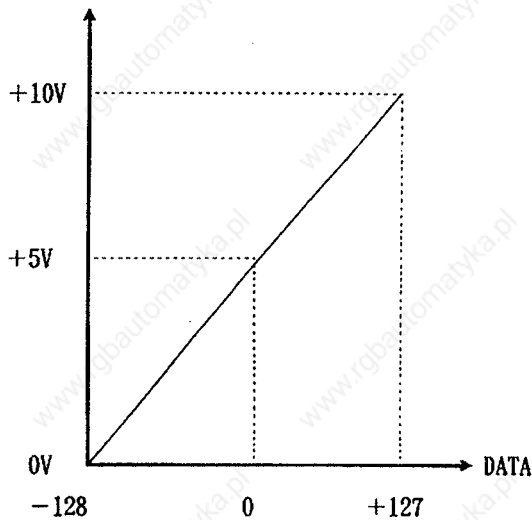

Fig. 1
- ① The output data other than speedometer output and load meter output will be D/A output as shown in Fig. 1.
If parameter SP255 (SP256) is set to 256 (magnification = 1), the D/A output voltage will be the following, according to Fig. 1.
Thus, during a +0.1° position droop, the actual data = $0.1 \times 23040000/360=6400$ will be output. If parameter SP255 (SP256) is set to 256 (magnification = 1), the D/A output voltage will be the following, according to Fig. 1.